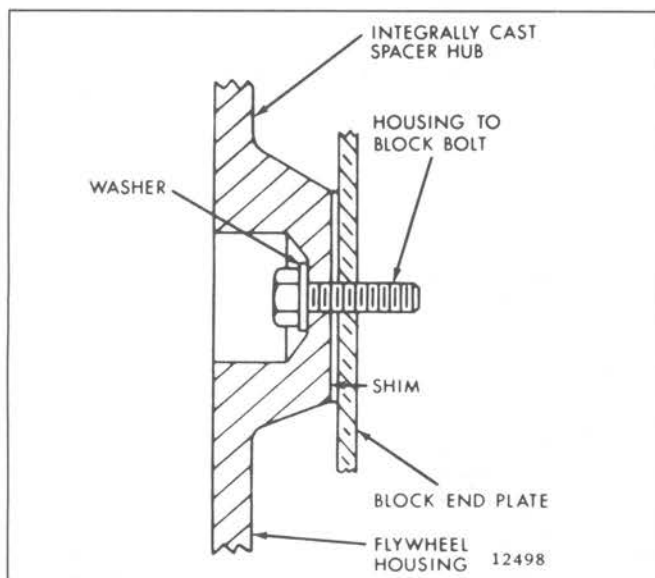

Fig. 3 - Idler Gear Hole Spacer Shim
2. Affix a new gasket to the flywheel housing. On certain flywheel housings, the idler gear hole spacer is cast integrally in the housing, opposite the idler gear (Fig. 3). As a result of this integral cast design, a shim must be installed between the flywheel housing and the cylinder block end plate. Use grease to hold the shim on the spacer during installation of the flywheel housing.